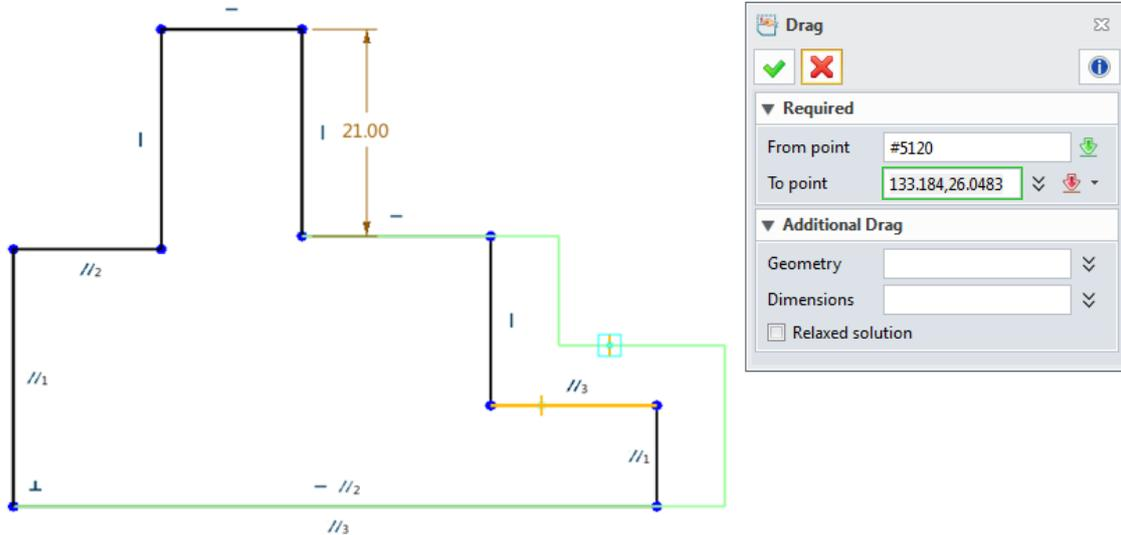

Figure 71 Simple Drag
STEP 02 Define the destination point (To point). Figure 71 shows the simple case.